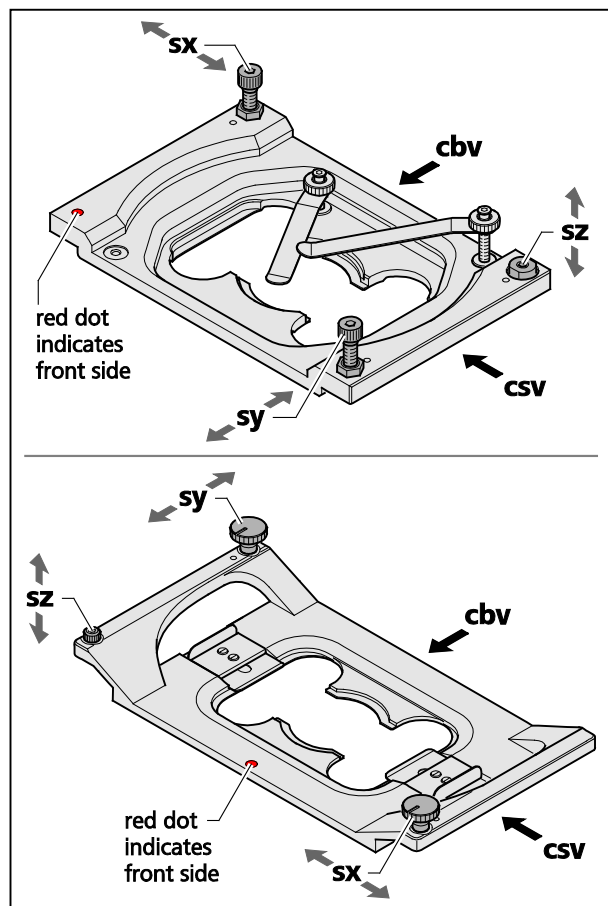

Fig. 9 Adjustable sample holder – schematic view
0. Adjust the edges of the clefts viewed from the right side (Fig. 9/**csv**) and back side (Fig. 9/**cbv**) to be parallel by using screws **sy** and **sx**, respectively (Fig. 9). The cleft's width should be approximately 2 mm as preset by the factory, but can be adjusted with screw **sz** if needed.
6. Adjust the adjustment screws of the sample holder. Turn screw **sx** for the tilt along the **x**-axis and screw **sy** for the tilt along the **y**-axis until you observe visually an even reflection image (Fig. 9). You might need to re-adjust the z-range when turning the screws. Screw **sz** will only have to be adjusted in case the range of screws **sx** and **sy** is not sufficient.